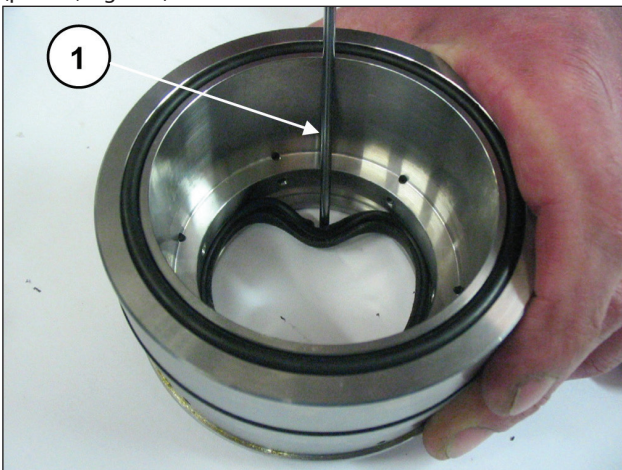

Fig. 168
To remove the low pressure seal, use a thickness gauge or another tool which will not damage the seal support housing (pos. ①, Fig. 168).